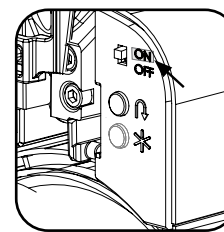

Figure 13
17. Turn 'ON' the dispenser by placing the switch to 'ON'. (Fig. 13)